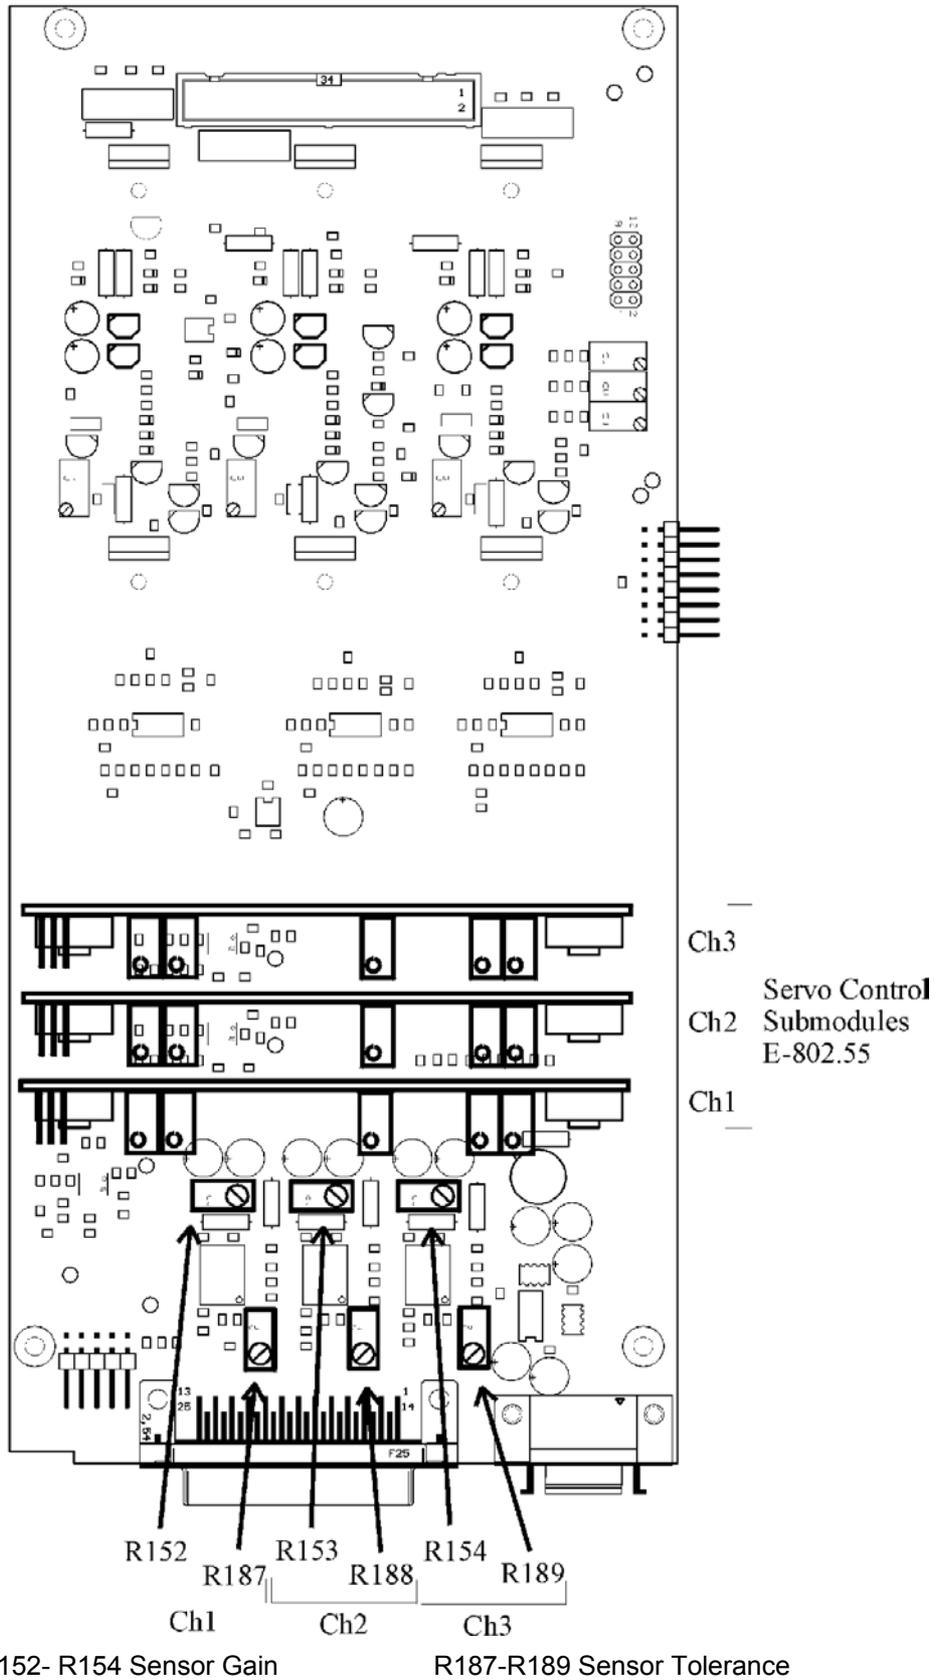

Fig. 3 Adjustment element and submodule locations
- 7 Scan the voltage at CONTROL INPUT from 0 V to +10 V and read the PZT displacement using the external gauge. With +10 V the external gauge should show the PZT at about nominal expansion. Adjust with the sensor gain trim potentiometer (see Fig. 3).
- 12 Adjust the PZT position to the nominal expansion value using the sensor gain adjustment (Fig. 3) from step 7. Now, because servo ON, the sensor monitor value will not change!